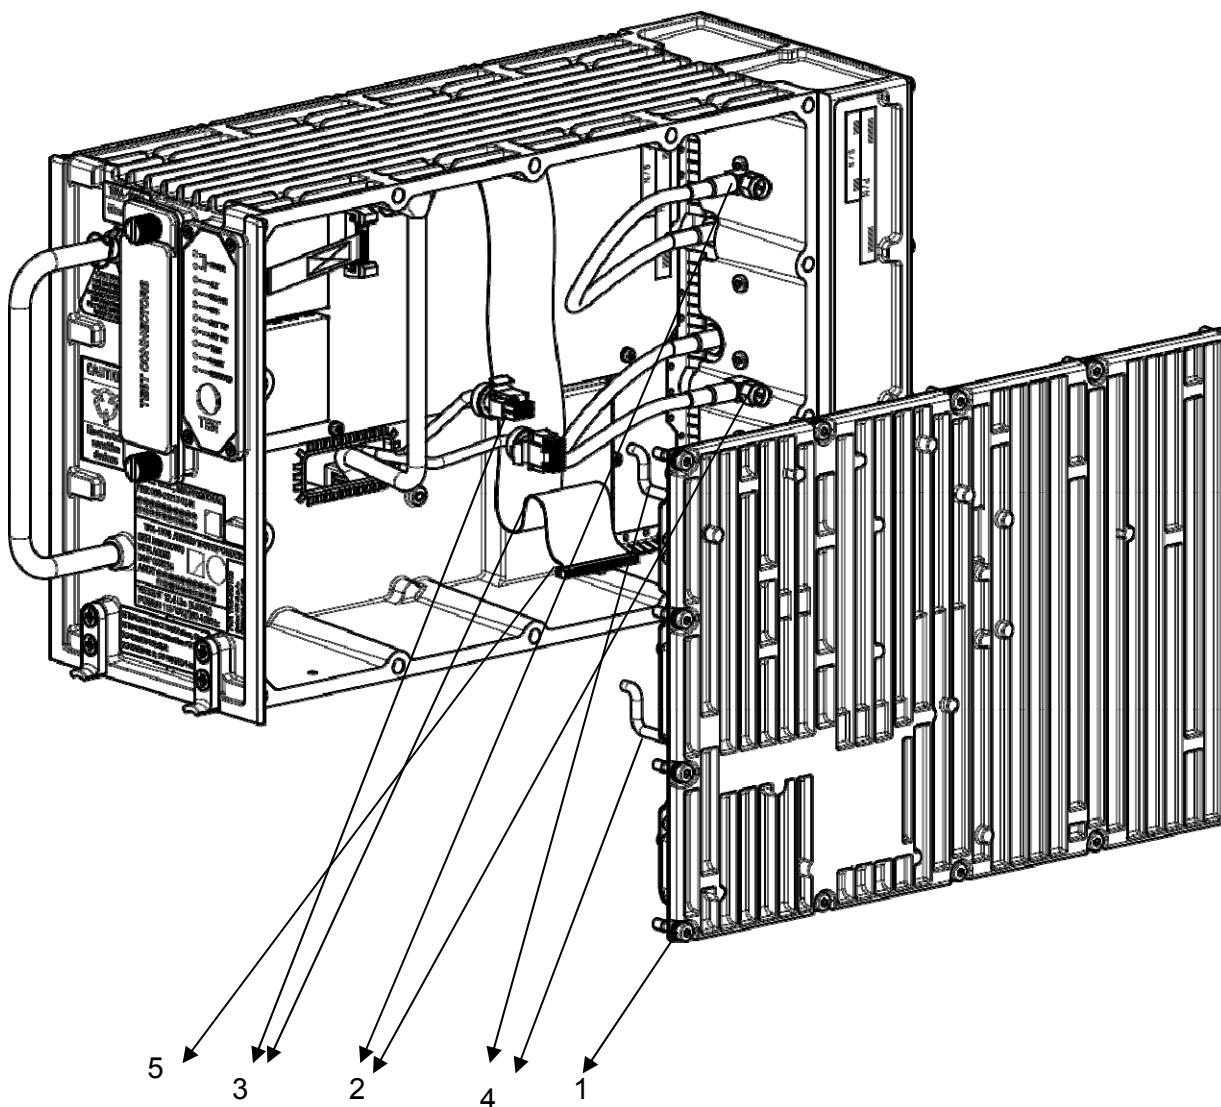
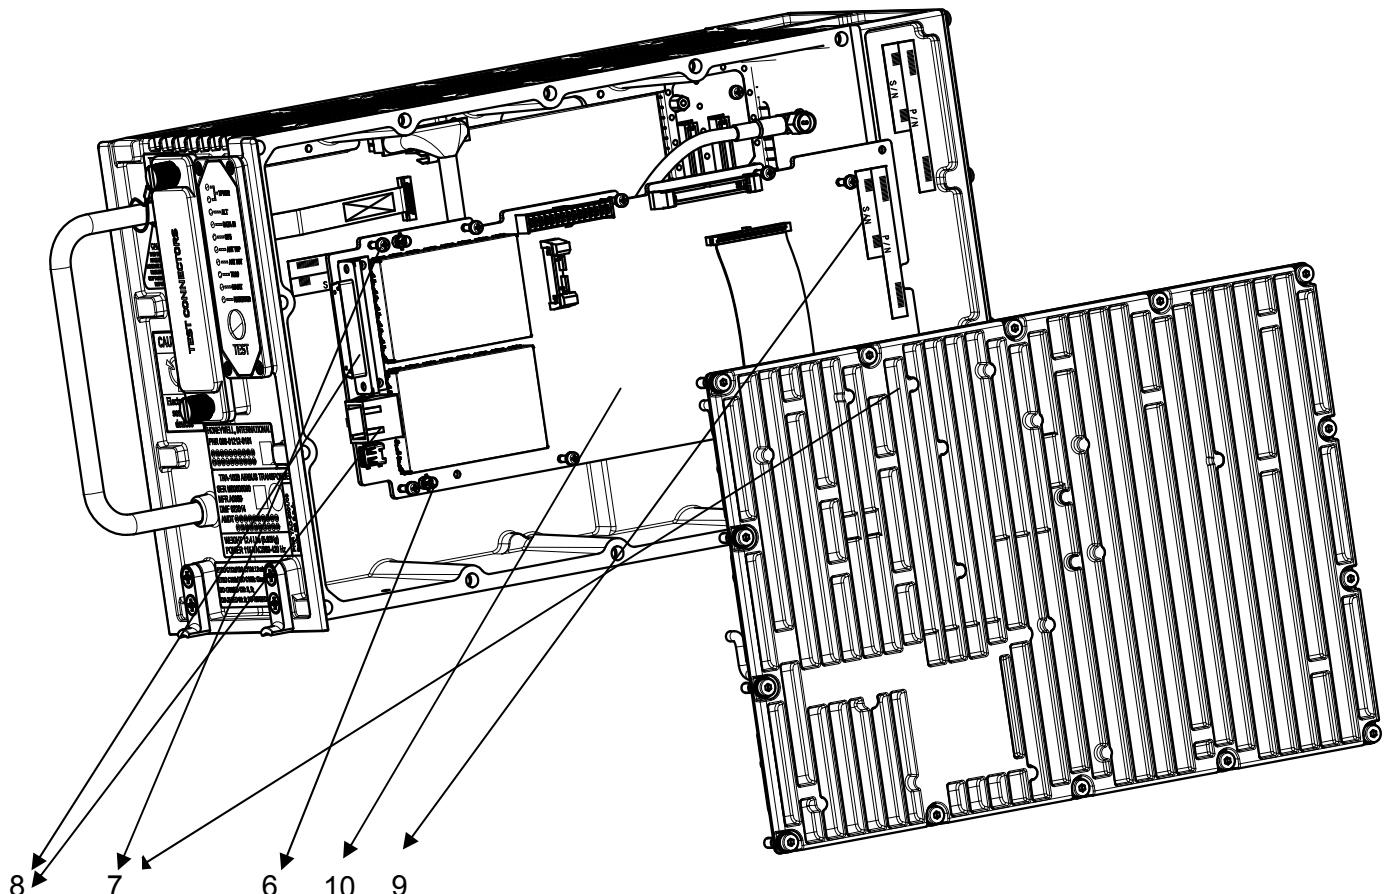
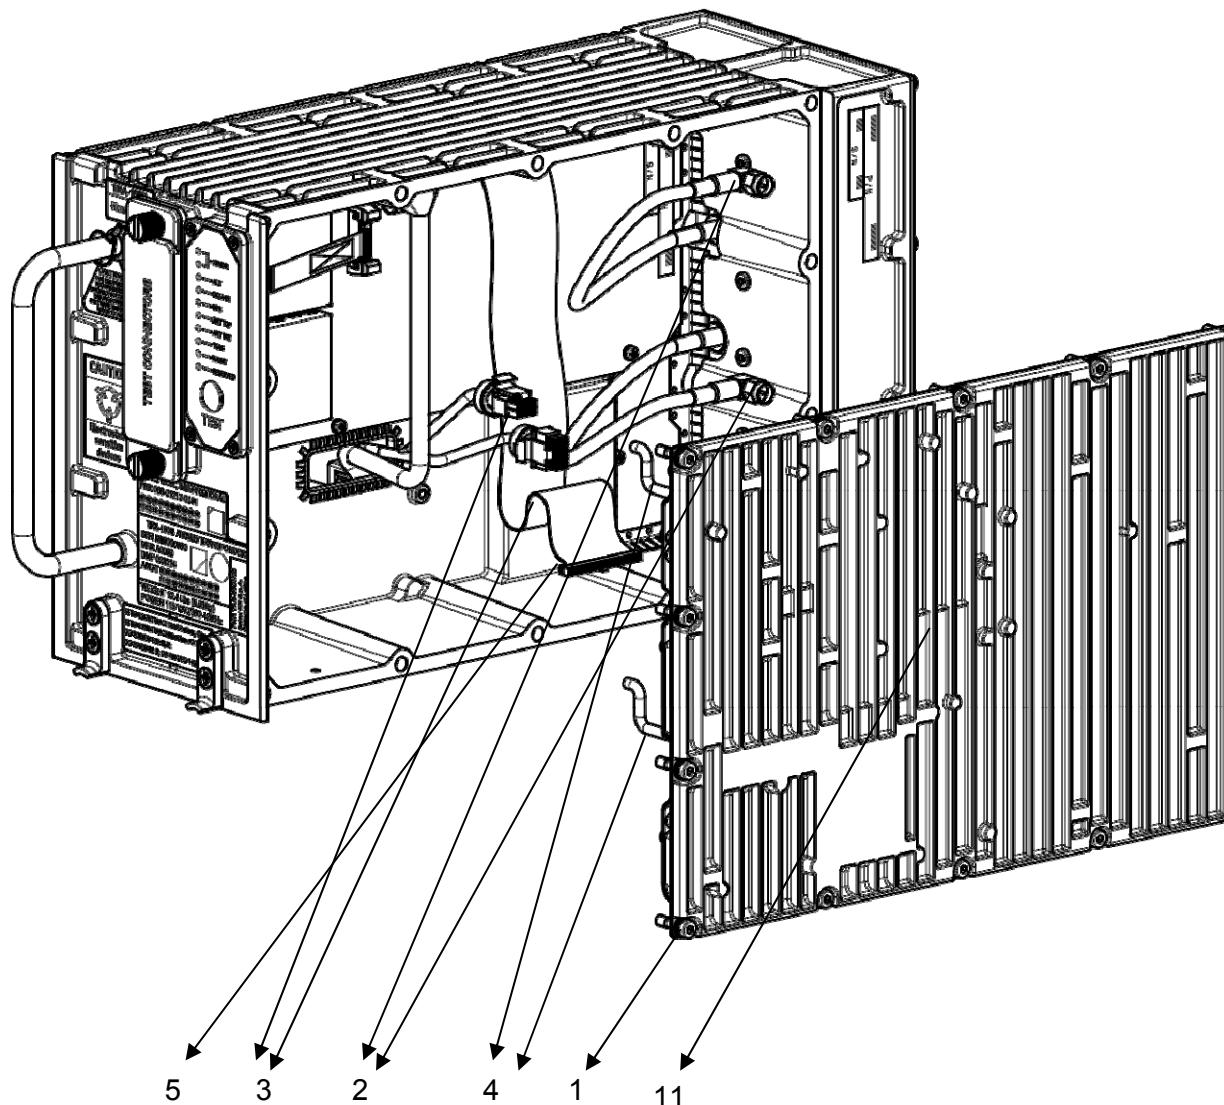

Figure 8-1 – TRA-100B, Data Processor and I/O – Replace procedure
Figure 8-2 – TRA-100B, Data Processor and I/O – Replace procedure (position)
Figure 8-3 –TRA-100B, RF Subassembly – Replace procedure
- 1.1) Removal Transponder cover (right side) unscrewing the related M2,5 fourteen crosshead screws using a torque screwdriver bit holder and appropriate bit (1). (Figure 8-1, Figure 8-2)
2.1) Install Data Processor and I/O Module. (Figure 8-1, Figure 8-2)
- 1.1) Follow the procedure to remove the Data Processor and I/O module (Para. 8.4.1). (Figure 8-3, Figure 8-2)
- 2.1) Install the RF Subassembly. (Figure 8-3, Figure 8-2)
- 1.1. Removal Data Processor and I/O module and RF Sub Assembly module following the procedures described in Figure 8-1, Figure 8-2 and Figure 8-3.